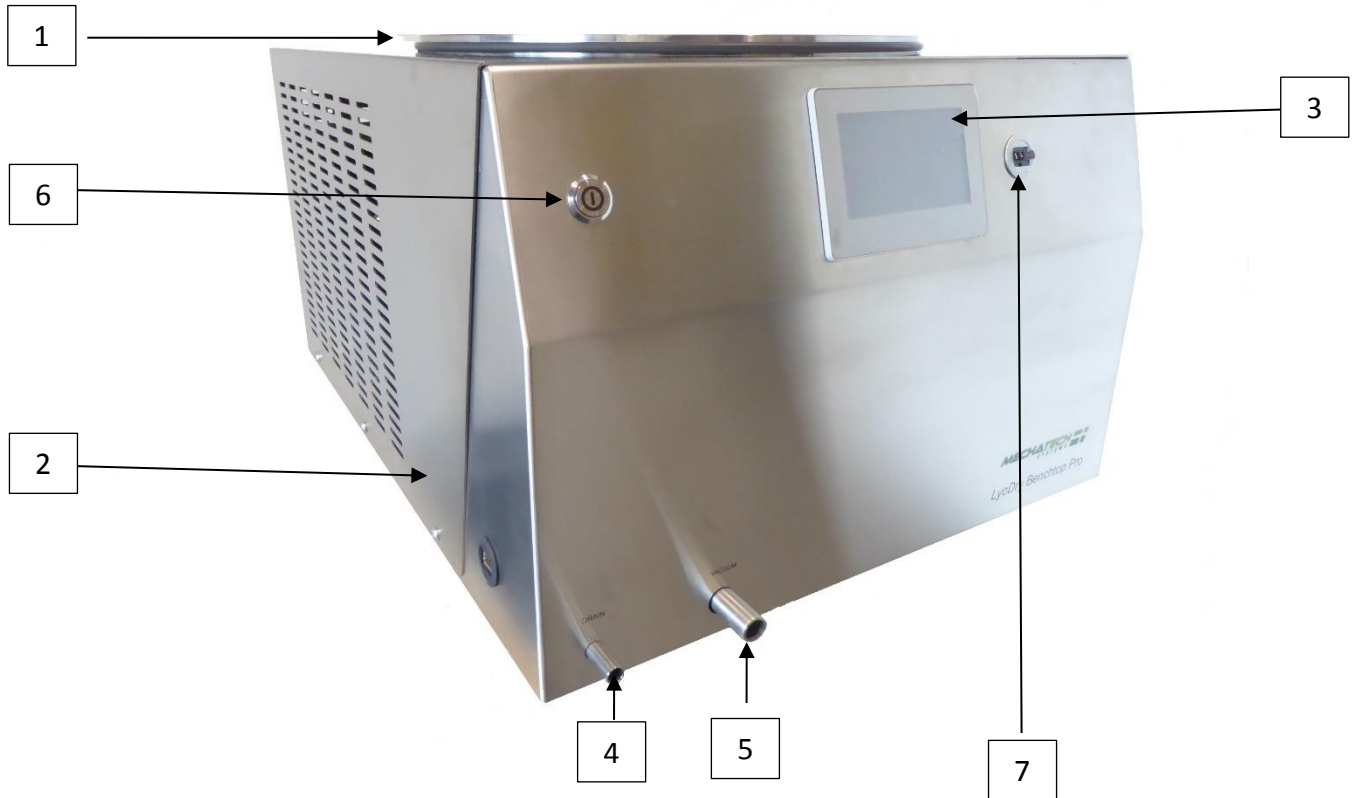

Figure 1 – LyoDry Benchtop Pro.
2. Press the On/Off switch (item 7, figure 1)
3. The display (item 3, Figure 1) on the front panel should be illuminated.
11. Attach an empty drying accessory to the accessory flange (item1, Figure 1).
The LyoDry Benchtop Pro has a condenser chamber, a refrigeration system and a control system which includes temperature and pressure indication and user controls. The refrigerant used in the LyoDry Benchtop Pro is CFC free. All of the LyoDry Benchtop Pro components are all housed in a stainless steel cabinet which is designed for bench-top use. The components are described in the following sections (see figure 1 for the locations of components).